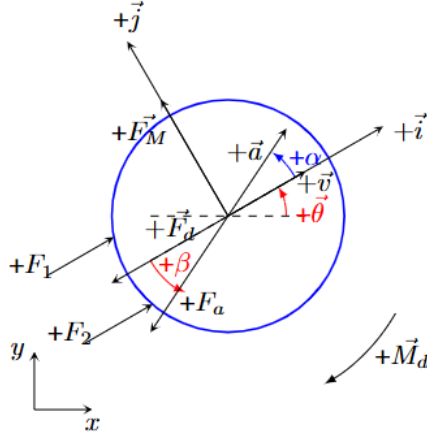

Figure 5: Free Body Diagram of Robot Swimmer Model
2. Kinematics Analysis of the Robot Swimmer Model, as shown in Figure 5.